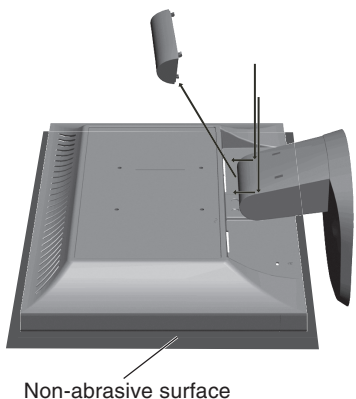

Figure R.1
- Remove the hinge cover (**Figure R.1**).
- Place monitor face down on a non-abrasive surface (**Figure R.1**).
1. Place monitor face down on a non-abrasive surface (**Figure R.1**).